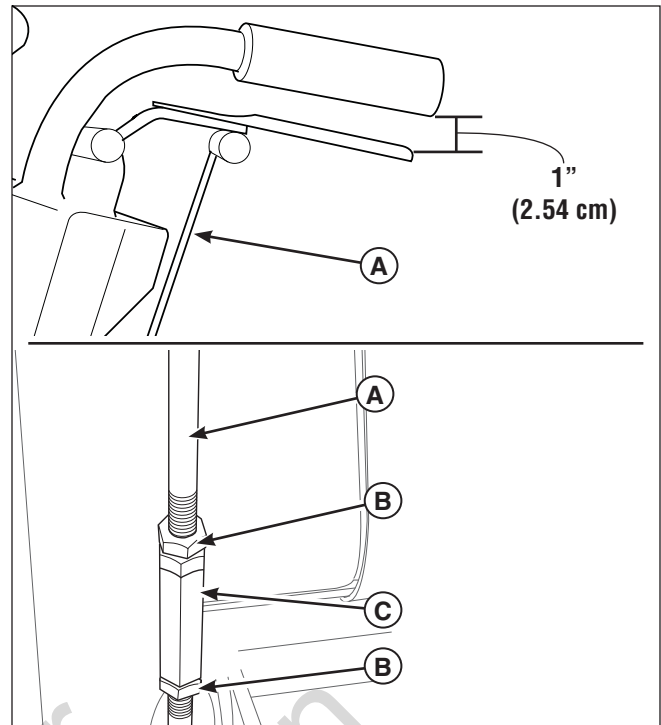

Figure 39. Handle Placement Adjustment
1. Loosen the jam nuts (**B, Figure 39**) that are located on the top and bottom of the reversing linkage rod (**A**).